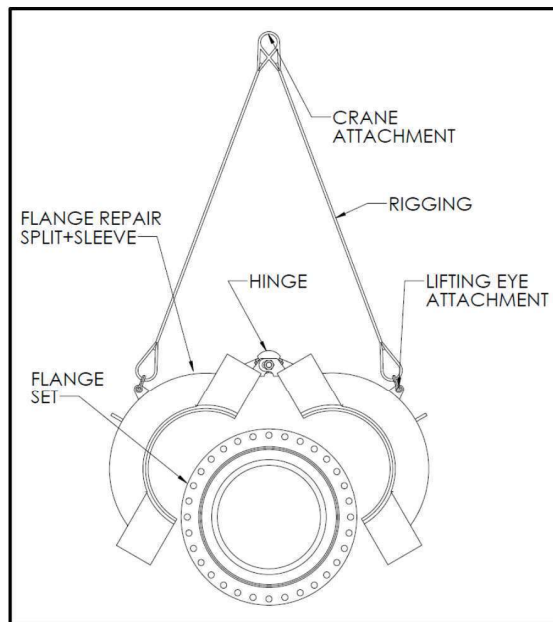

Figure 8
3. Attach properly sized rigging such as chains, cables, or straps to a single point crane attachment. The rigging should be sufficiently long enough that the rigging doesn't interfere with opening and closing of the fitting as shown in Figure 8.
4. Lift the fitting up from the single point crane attachment. The Flange Repair Split+Sleeve will open as shown in Figure 8.
5. Position the fitting over the pipeline and slowly lower the fitting onto the pipeline as shown in Figure 8. The inside of the fitting will come in contact with the pipeline, and the fitting will start to close as it is lowered. Some fittings may require some additional side force to close the fitting around the pipe. Always keep all body parts clear of the inside of the fitting as the fitting is being lowered onto the pipe. This is to ensure safety in the event the fitting slams shut rapidly.